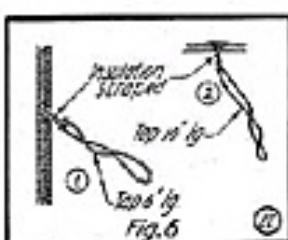

Fig. 6. "Tap" Lead Details.
The taps are made in the following order: beginning of winding, end of first turn, end of second turn, end of third, 7, 9, 11, 13, 23, 24, 28, 32, 36, 40, 41, 48, 52, 53, 60, 64, 68, 72, 76, 80, 84, 88, 92, 96, 101, 104, 108, 112, 116, 120. (1) Fig. 6 shows the method of making taps. The taps should be made in a straight line down the coil; however, the first ones should be staggered a little, so the bare wires will not come in contact with each other. Be careful in scraping the insulation where the taps are twisted (see Fig. 6) not to cut the wire. By scraping the wire in this way losses from taps are minimized. Leave a good 6 inches for connections to the switch. It is well to run a little sealing wax over the wire where the taps are made. When the winding is complete fasten the end through two holes as before, leaving enough for connection. Next, cut up four strips of thin cloth, 4 inches by $\frac{1}{4}$ inch, and soak them in fairly thick shellac. Then lay them lengthwise on the winding, 90 degrees apart. Cut off the ends of the cloth even with the ends of the tube; do not turn them under. This
26 double silk-covered wire is required for the secondary coil. The taps (see (2) Fig. 6) are made differently. Instead of coming from the outside, they must come from the inside of the core. Beginning $1/16$ of an inch from the end of the secondary core, mark off $3/10$ of an inch 10 times. At these points make holes just large